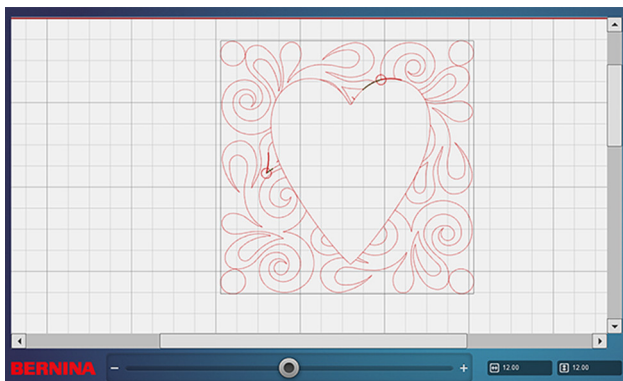

Fig. 18
7. Select Preview to view the mask (Fig. 18). Select Undo if you wish to reposition the mask. When satisfied, select the green check mark to confirm the mask.